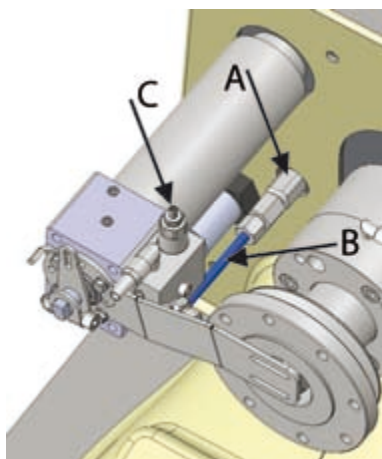

Figure 17. Lubricating the Rear Bearing
- If the automatic lubrication unit feeds too much grease (the reservoir empties too soon), reduce the pressure by loosening the adjusting screw (figure 17, point C).
- If the automatic lubrication unit does not feed grease to the rear bearing (cold conditions, thick grease type), increase the pressure by tightening the adjusting screw (figure 17, point C).